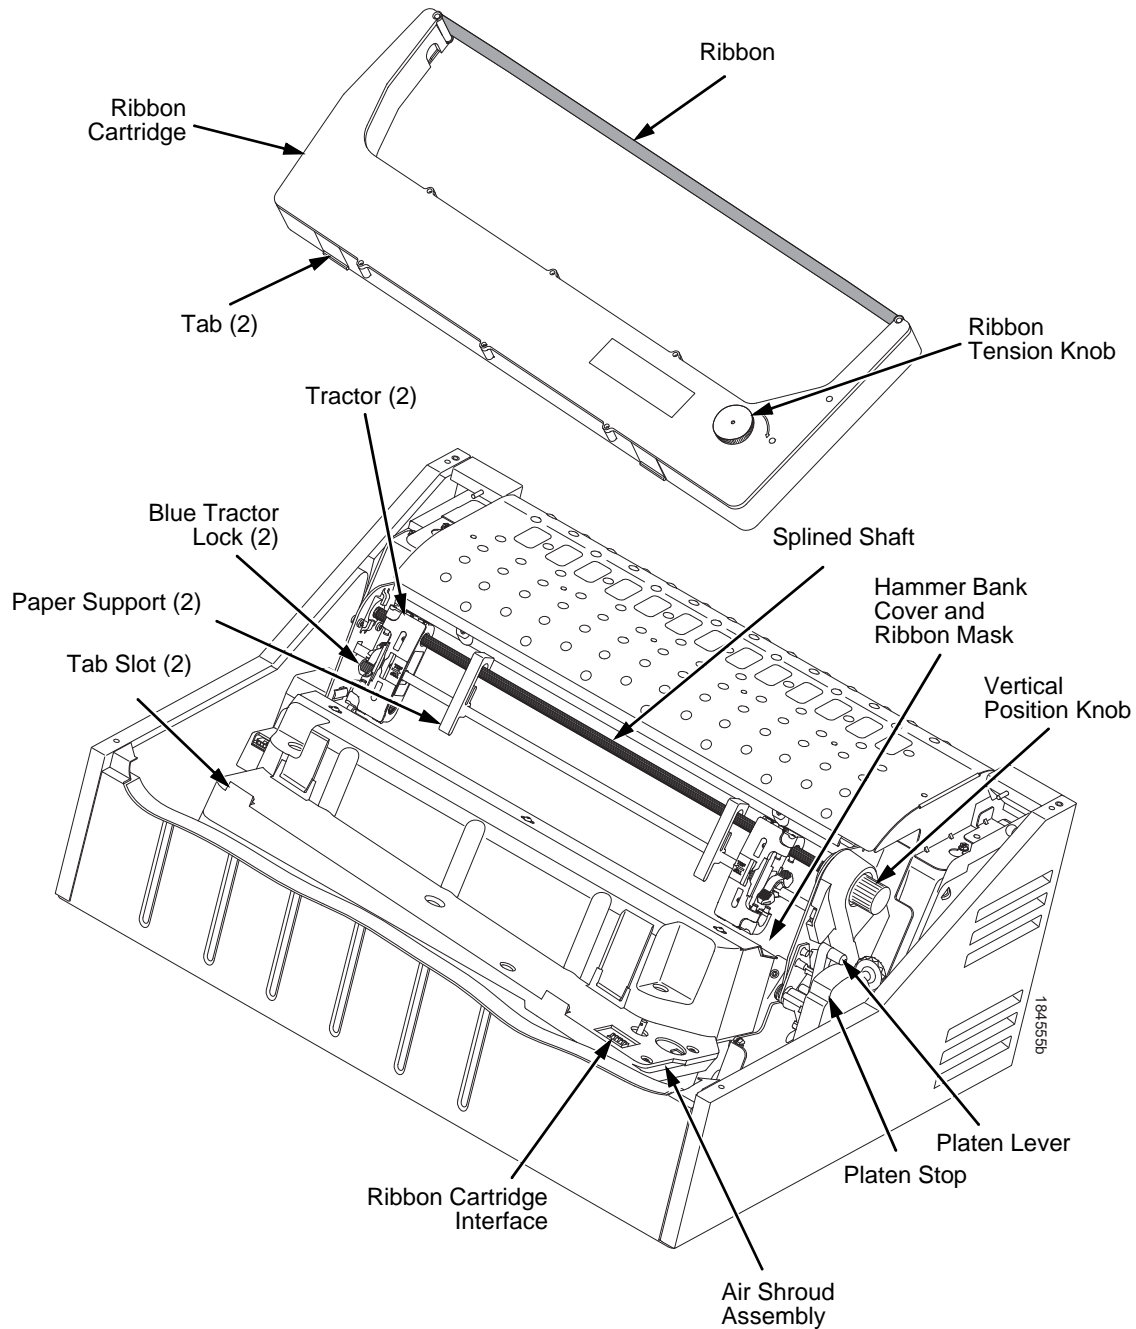

Figure 7. Printer Component Locations
1. Raise the printer cover. Raise the platen lever as far as it will go. (See Figure 7 on page 26 for the location of the lever.)